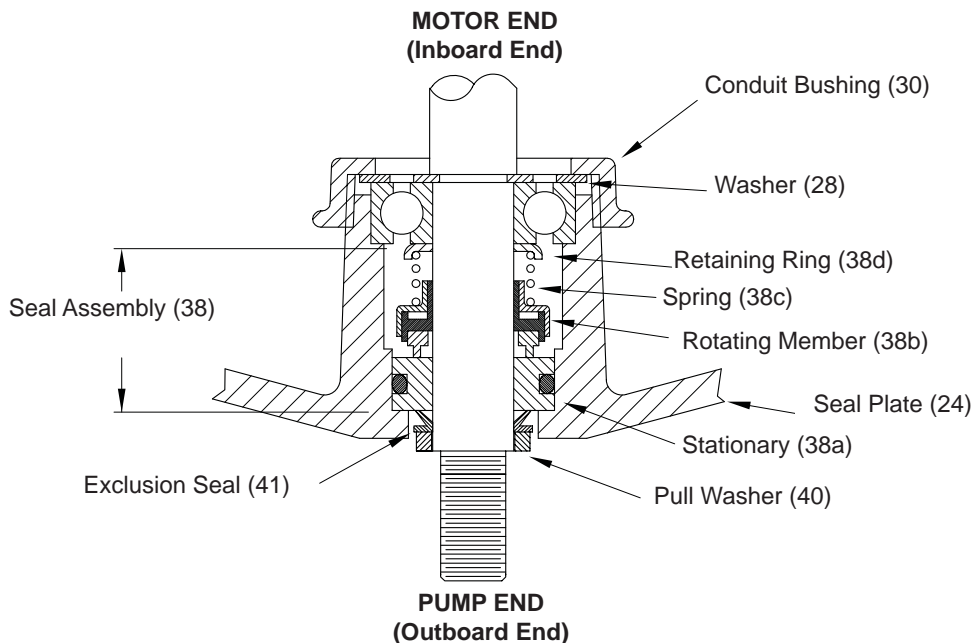

FIGURE 3
Seal - Remove rotating member (38a), spring (38c) and retaining ring (38d) from shaft. (See Figure 3). Examine all seal parts and especially contact faces. Inspect seal for signs of wear such as uneven wear pattern on stationary members, chips and scratches on either seal face. **DO NOT** interchange seal components, replace the entire shaft seal (38). If replacing seal, remove stationary (38a) from seal plate (24) by prying out with flat screwdriver.